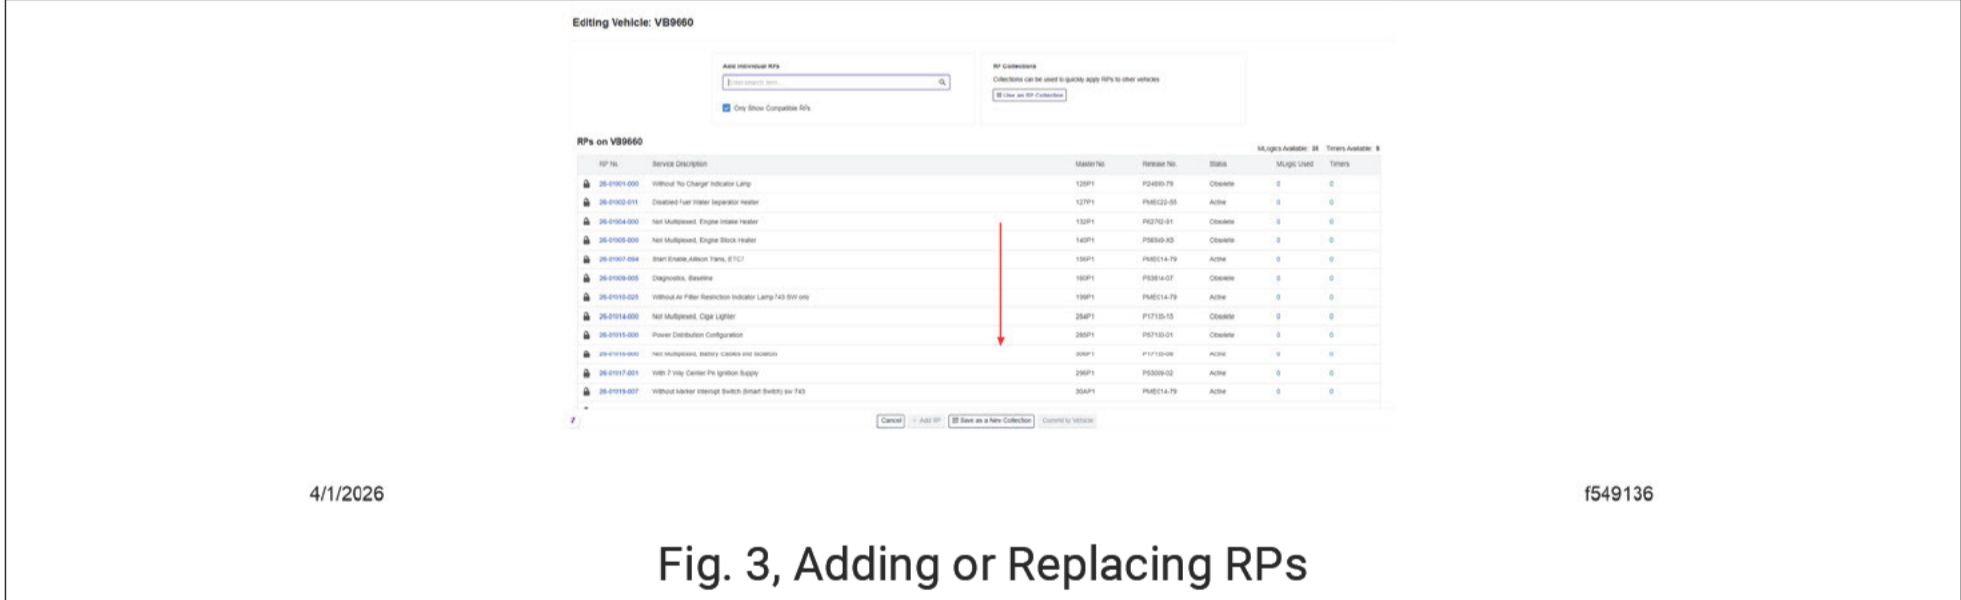

Fig. 3, Adding or Replacing RPs
8. Add or replace the RPs. See Fig. 3.